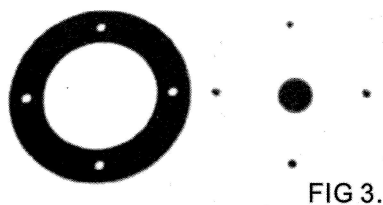

FIG 3.
STEP 2: Using the rubber ring as a template to drill 4 holes through roof and ceiling of vehicle (Refer to FIG 3.).